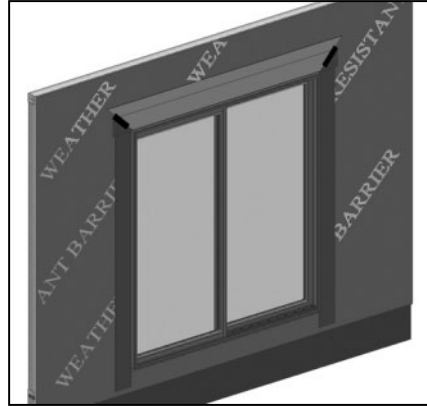

FIG. 26
- C) Cut and apply head flashing. The head flashing should be on top of the drip cap flashing. The head flashing should run slightly past the edge of the side flashing. (Fig. 26)